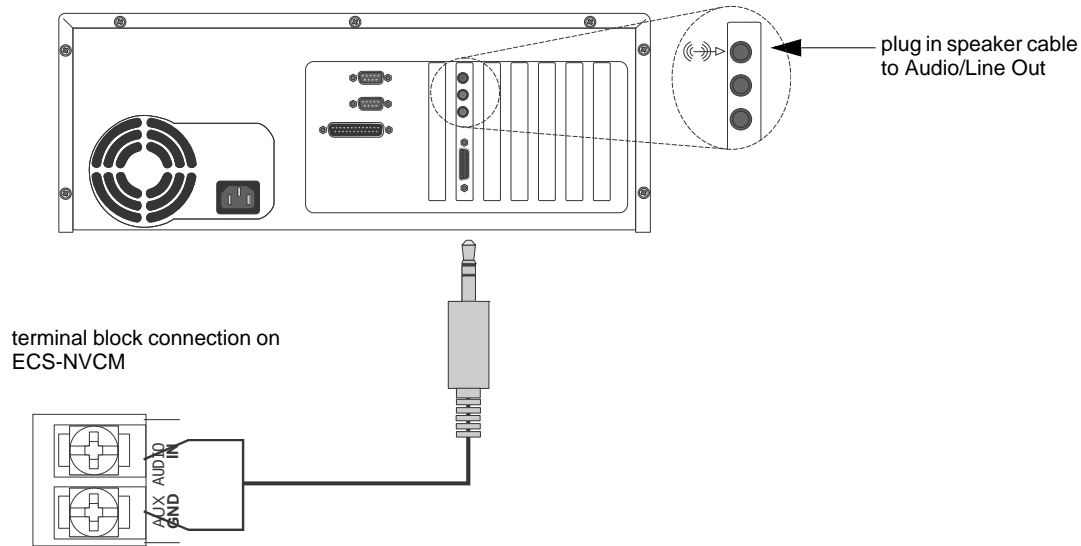

Figure 10.5 AUX Audio Connection for Recording
1. Wire a speaker cable with 1/8" mini plug to the Aux AUDIO GND and IN terminals. Refer to Figure 10.5.